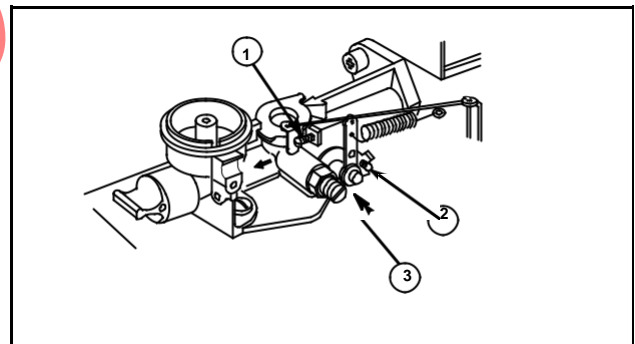

Fig. 25
Turn in speed adjustment screw (2) to increase speed, needle valve (3), idle adjustment screw (1), Fig. 25.